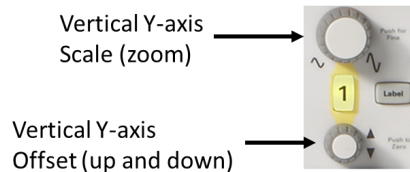

Figure 38: The oscilloscope vertical Y-axis control knobs.
- Turn the Channel 1 Vertical Y-axis Scale knob (see Figure 38) clockwise to increase the scale of the waveform shown on screen.
- Use the Vertical Scale knob to make the waveform as large as possible without going off the top or bottom of the screen (previously shown in Figure 38)